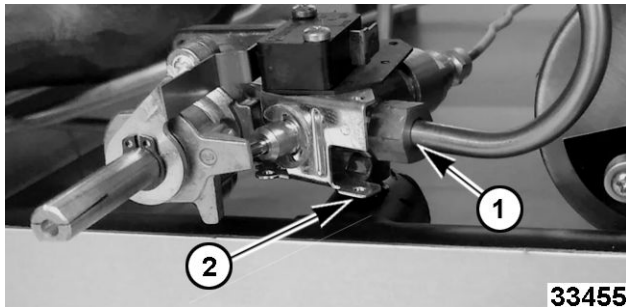

Fig. 20
9. Disconnect gas outlet to pilot (1, Fig. 20).
11. Unscrew thermostat valve assembly (2, Fig. 20) off manifold.